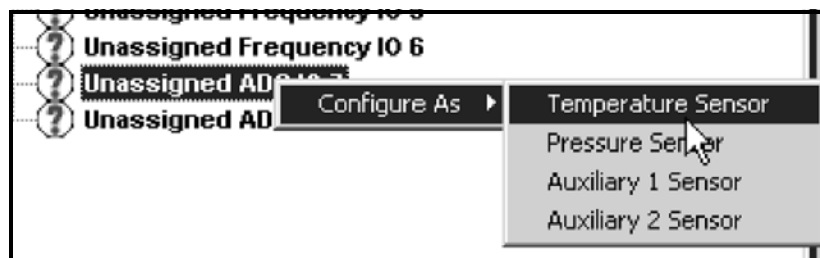
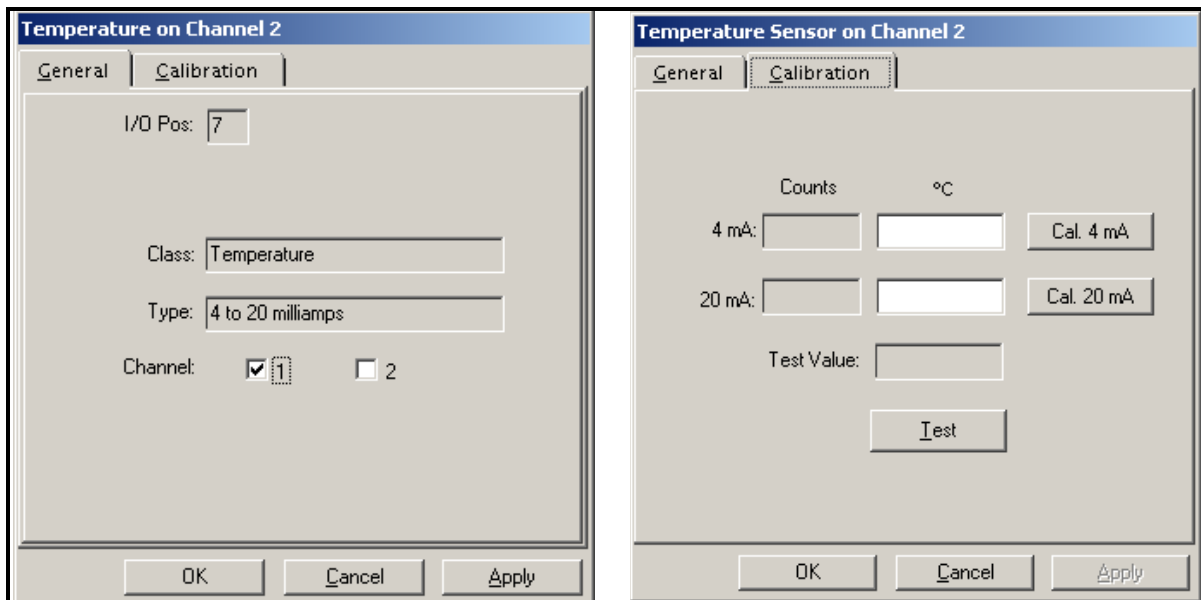

Figure 3-16: Accessing the Sensor Configuration
Figure 3-17: PanaView Temperature Assignments (two separate displays)
4. Under Unassigned I/O, right click on Unassigned ADC IO 7 and select the desired configuration option (see Figure 3-16 below). A display similar to that shown in Figure 3-17 below appears.